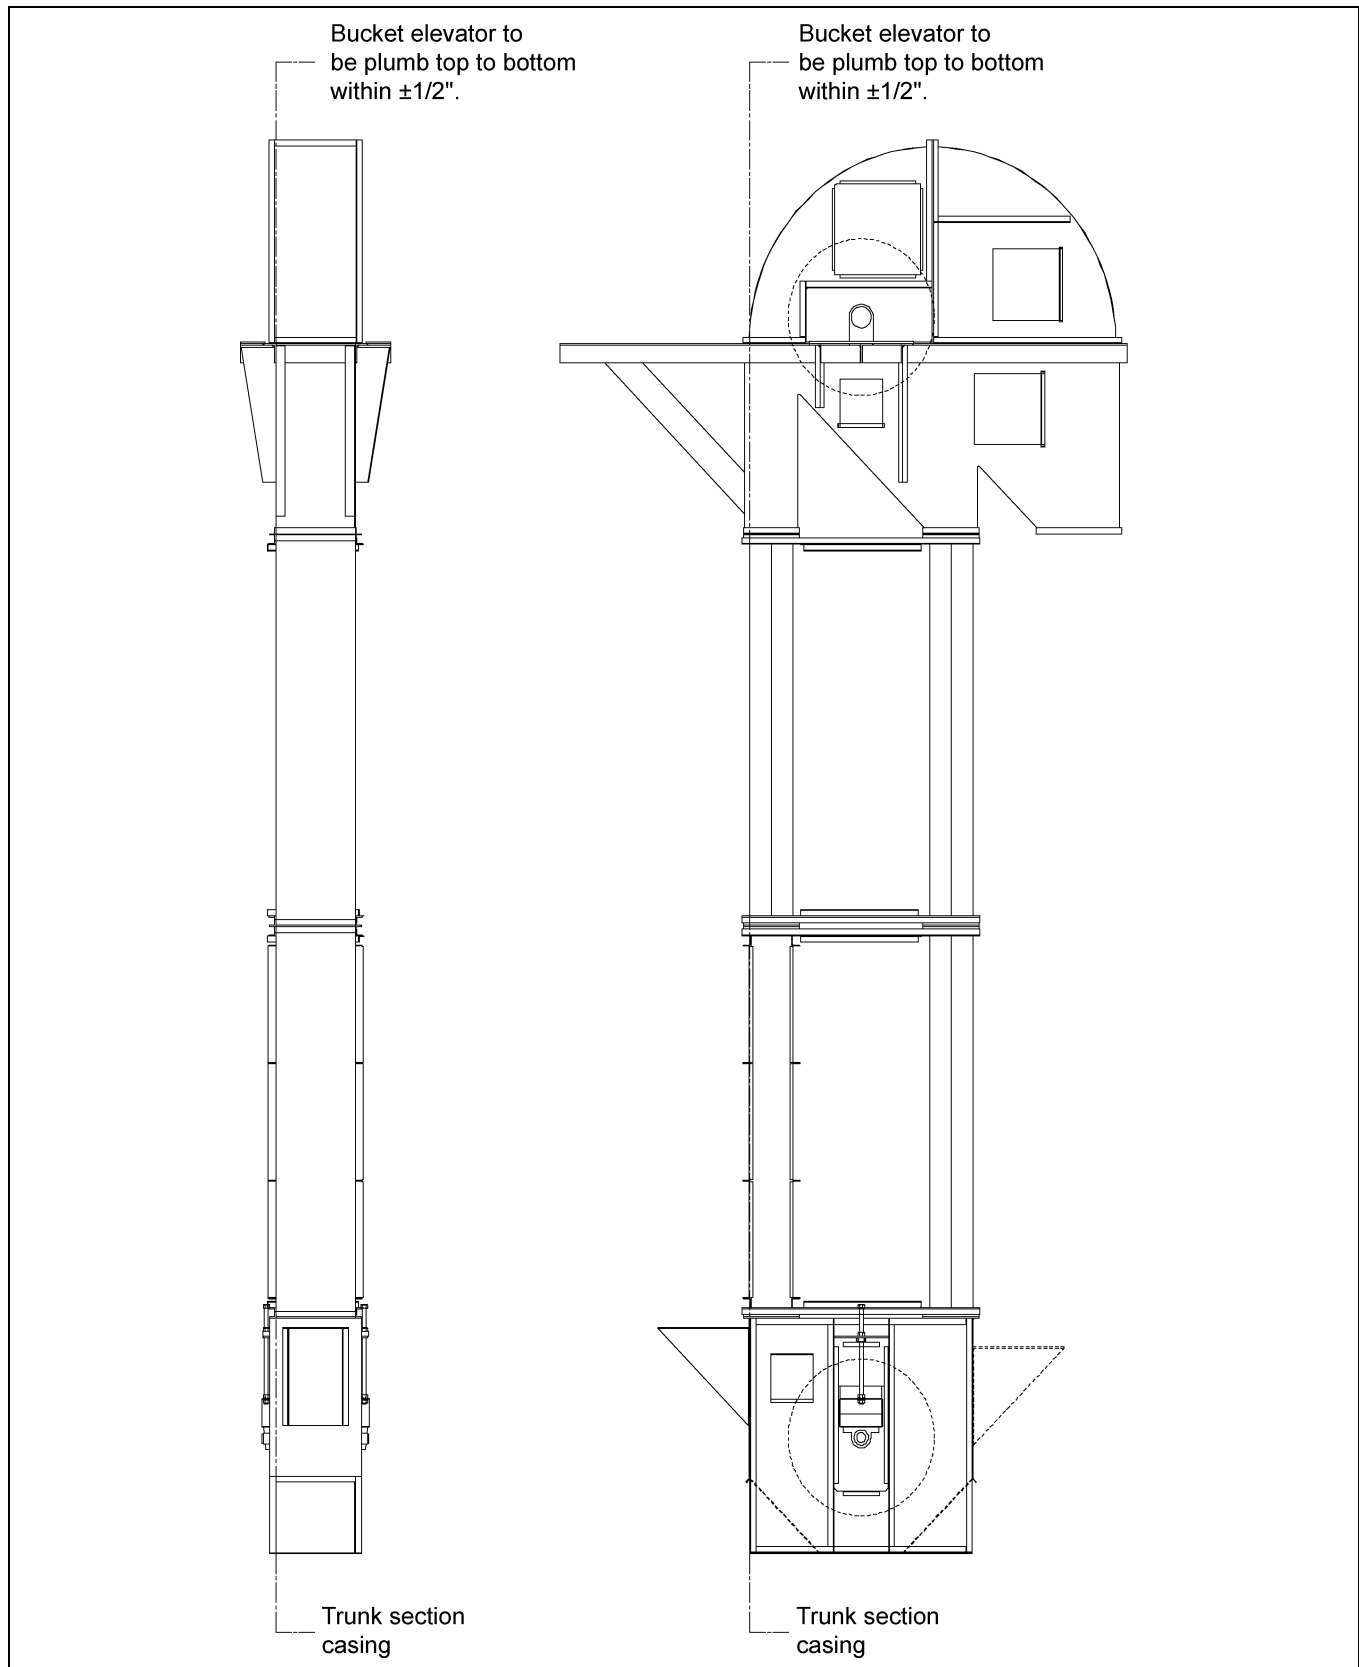

Figure 9A Plumbing Tolerance
To ensure proper Bucket Elevator plumbness, set up two (2) transits, one in each direction. Refer to Figure 9A for proper tolerance in elevator erection.